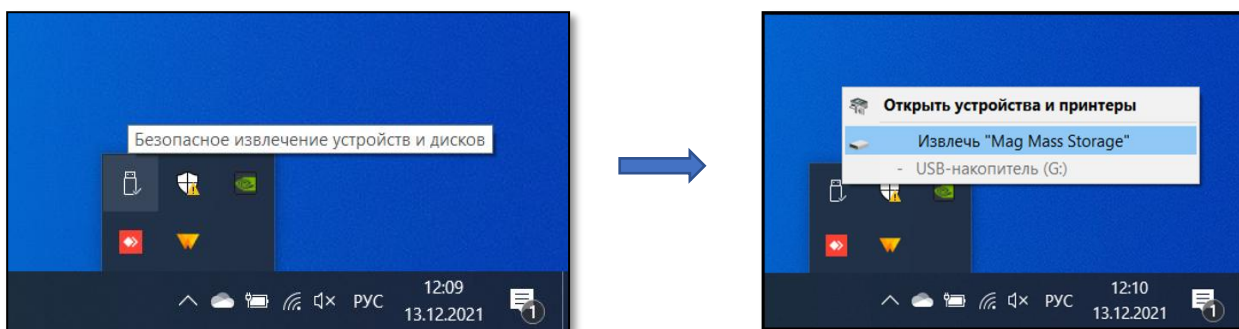

Figure 124 Safely Remove SmartMag Hardware
4.2.4 After copying the firmware file to memory, safely disconnect the SmartMag from the PC. To do this, in the lower right corner of the PC desktop, click the "Safely Remove Hardware" icon (Figure 124). Then click on the "Extract "Mag Mass Storage".